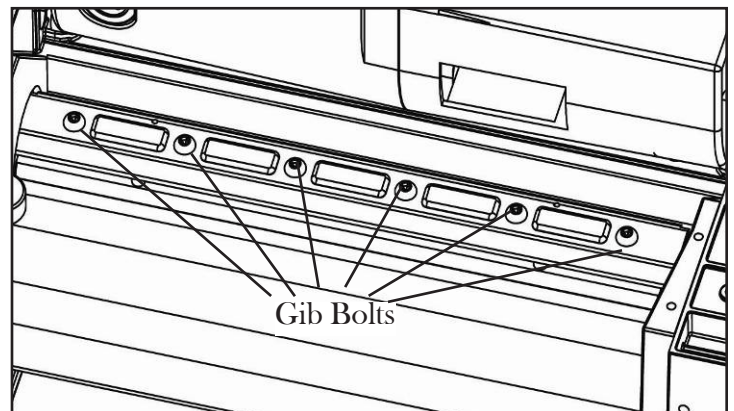

Figure 14
3. Carefully turn the cutterhead by hand to reveal the six bolts securing the gib in place (Figure 14).
4. Loosen and remove the six bolts from the gib (Figure 14).